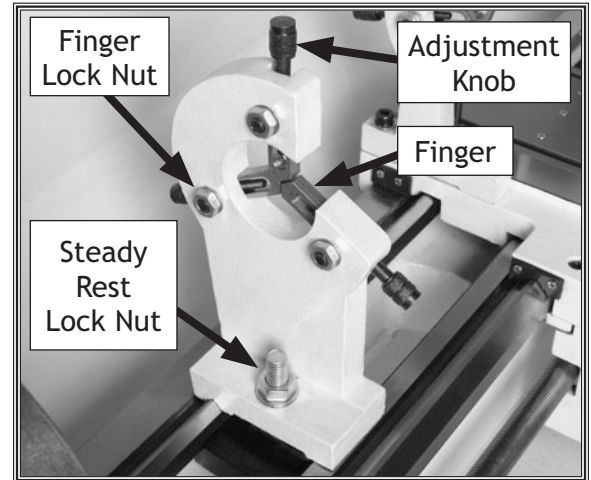

Figure 23. Steady rest.
2. Loosen the finger lock nuts so the finger position can be adjusted (see **Figure 23**).
3. Loosen the steady rest lock nut (see **Figure 23**), and position the steady rest where desired.